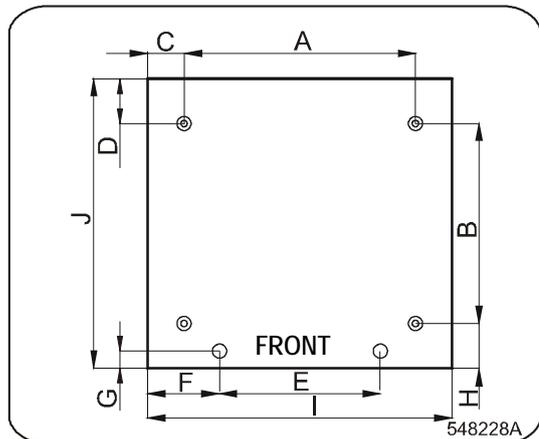

Figure 5 – Freestanding machines
- Drill 2 holes for anchoring bolts - see figure 5.